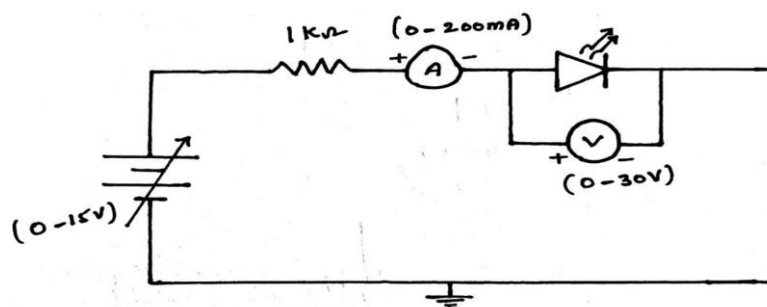

Fig.1.1 Circuit diagram to obtain V-I characteristics of LED
1. Connect the equipment as shown in Fig.1.1